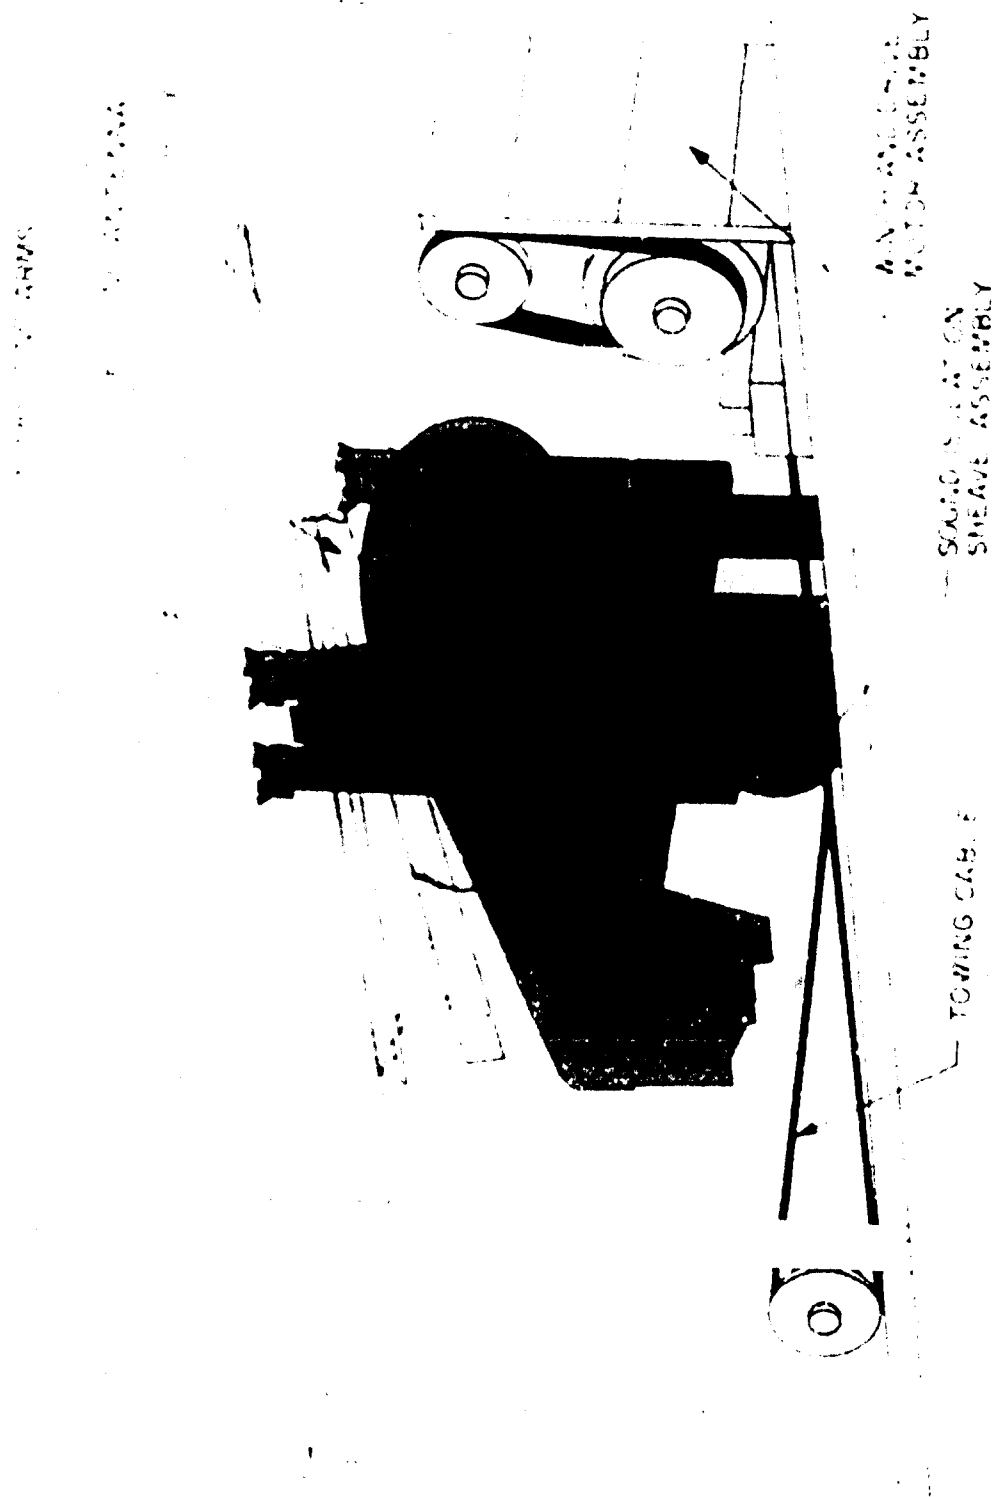

Fig. 1-2. Buoy winch and nest
- REELING MACHINE (Common name: WINCH/NEST ASSEMBLY) - The winch/nest assembly is bolted to the deck of the submarine and contains the winch motor with the reel of tow cable for the buoy. The buoy nests on this assembly when not in use. Refer to Fig. 1-2.